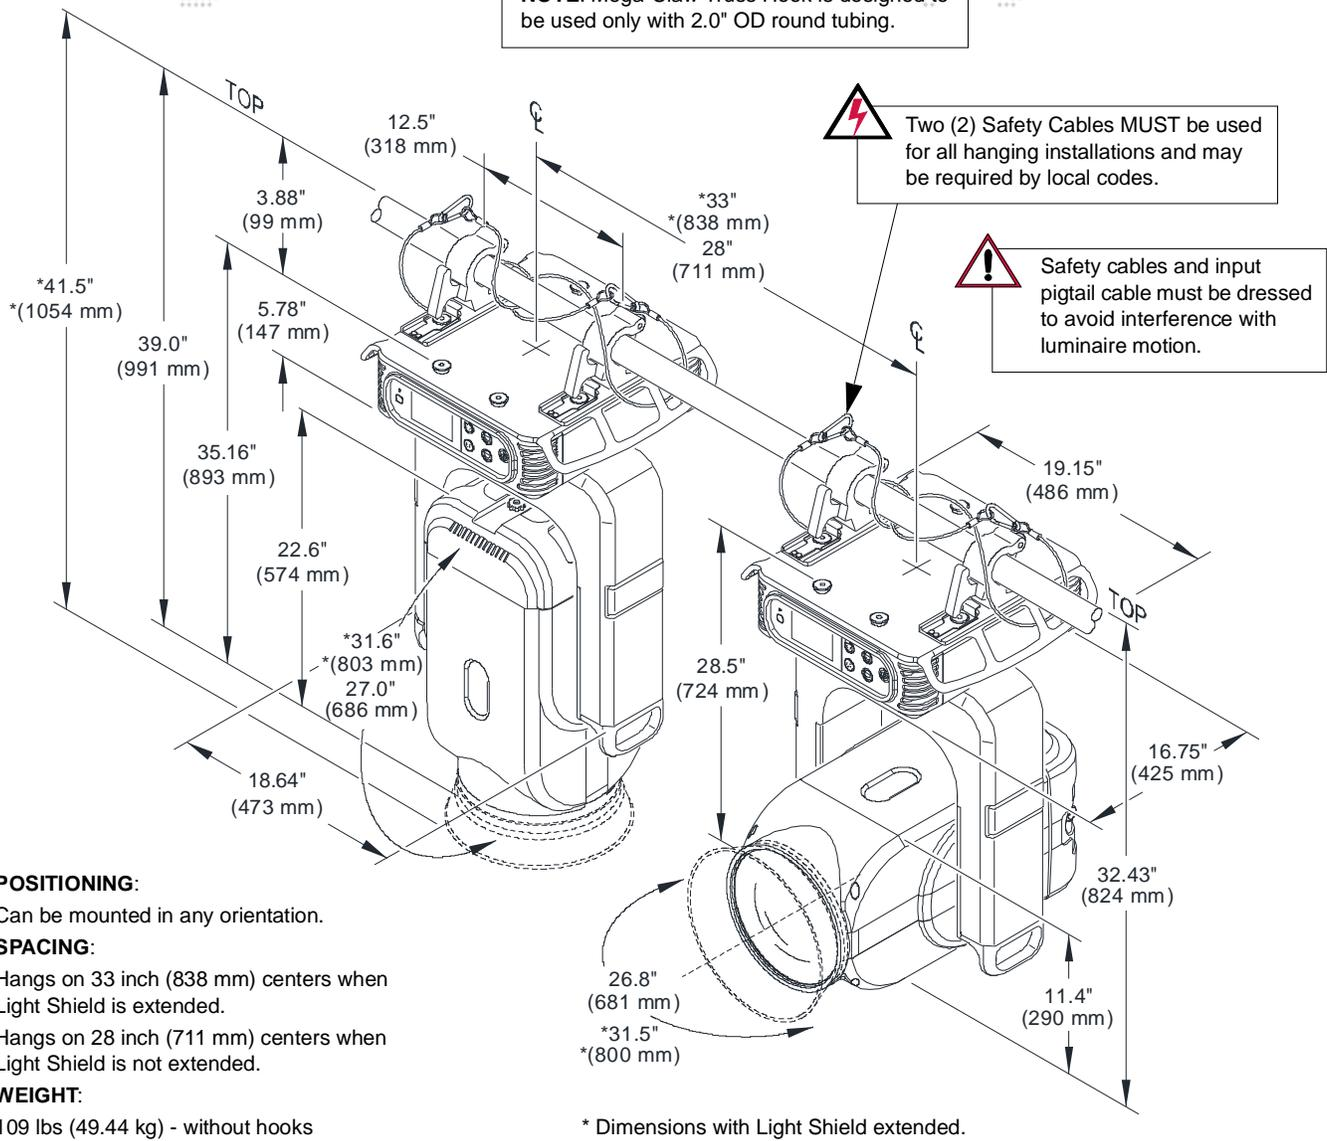

Figure 2-6: Standard Hanging Configuration and Dimensions
- Step 4. Secure in place by tightening Truss Hook wing bolts (**Figure 2-6**). Ensure that luminaire is fully supported.
- Step 5. Feed safety cables through base and secure around pipe as shown in **Figure 2-6**.
Note: When the Light Shield is extended, the luminaire spacing must be adjusted. Refer to **Figure 2-6** on page 16.
CAUTION: Before applying power, be sure the luminaire is hung or positioned so that the head and yoke can move freely without restriction. Refer clearances in Figure 2-6 on page 16.